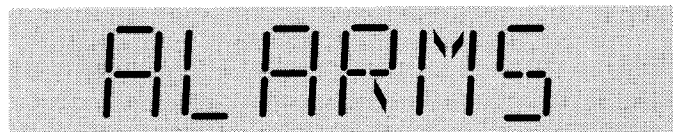

Figure 4-14 Alarms Menu Display
- Step 1:** Use the **Up** or **Down** pushbuttons to move to the **Alarms** menu (Figure 4-14).
Step 6: When finished viewing alarm information, use the **Escape** pushbutton and the **Function Display** returns to the **Alarms** menu (Figure 4-14).